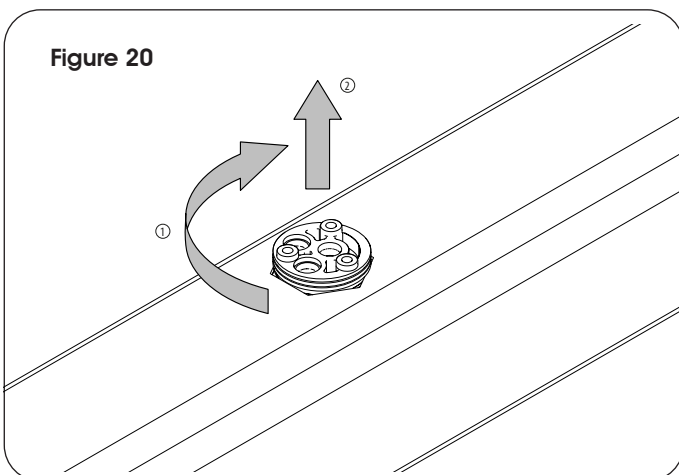

Figure 20
- Now rotate the collar (silver in color) clockwise by hand and then lift straight up (Figure 20). It's very important to not use tools or pry on this piece